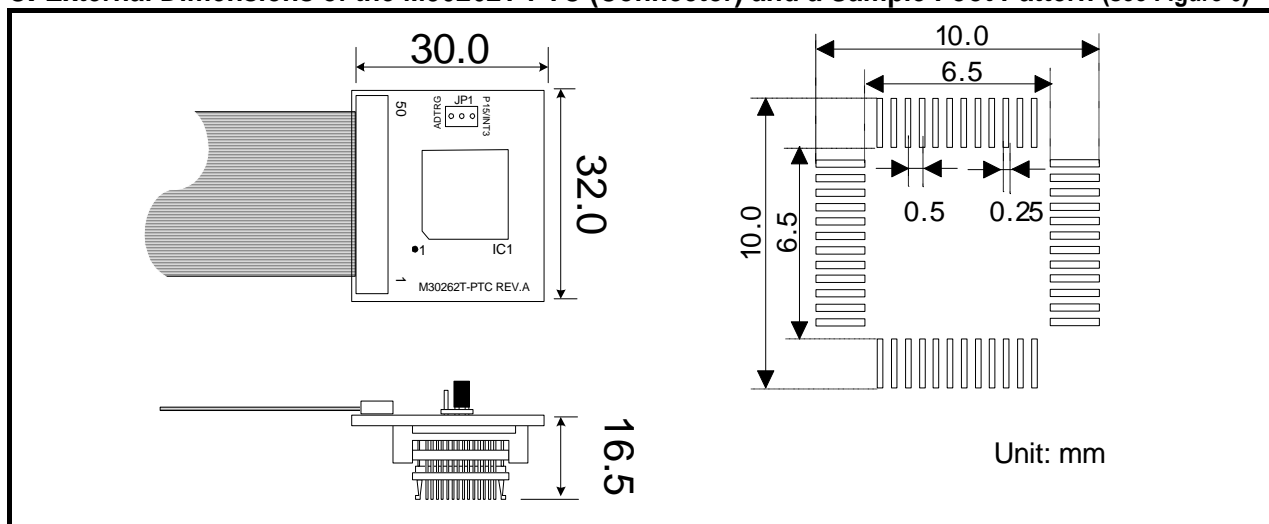

Figure 6 External dimensions of M30262T-PTC and sample foot pattern
8. External Dimensions of the M30262T-PTC (Connector) and a Sample Foot Pattern (see Figure 6)